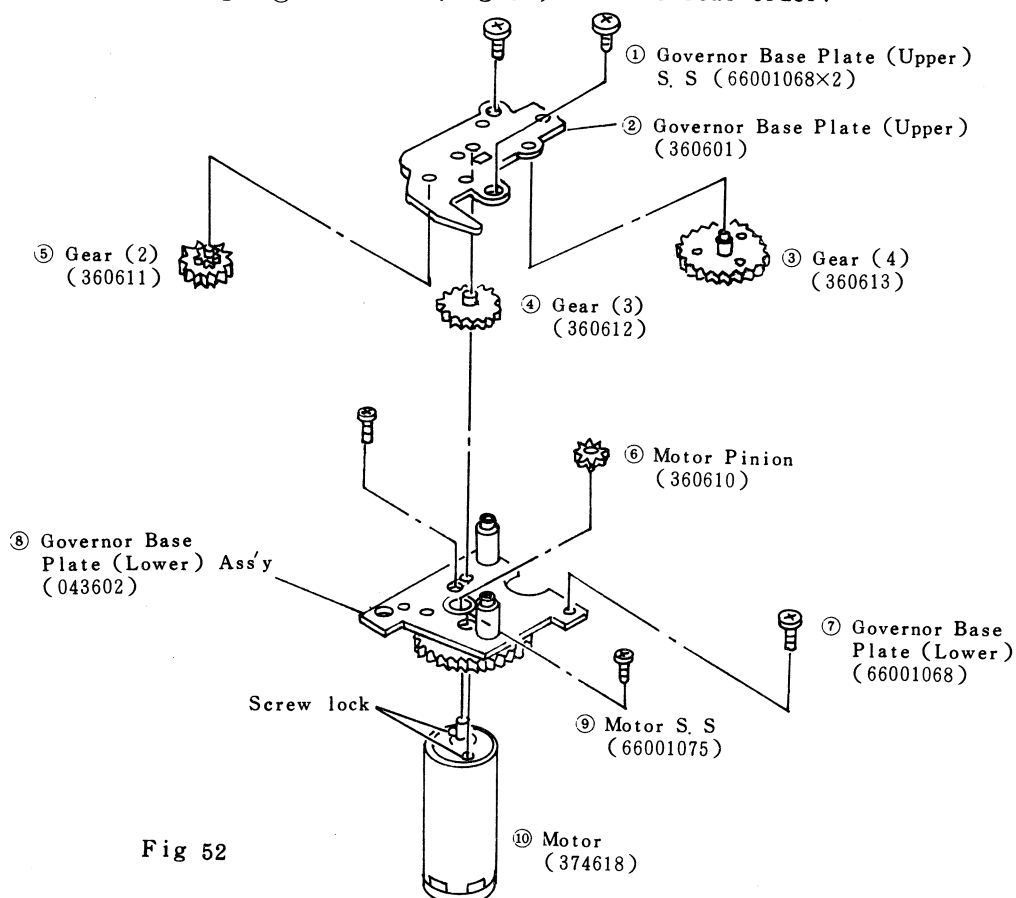

Fig 52
1) Remove the respctive parts ①~⑩ shown in (Fig 52) in numerical order.